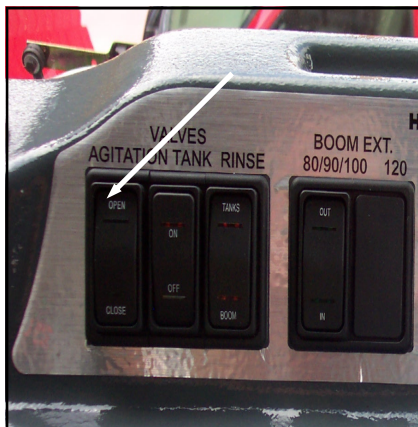
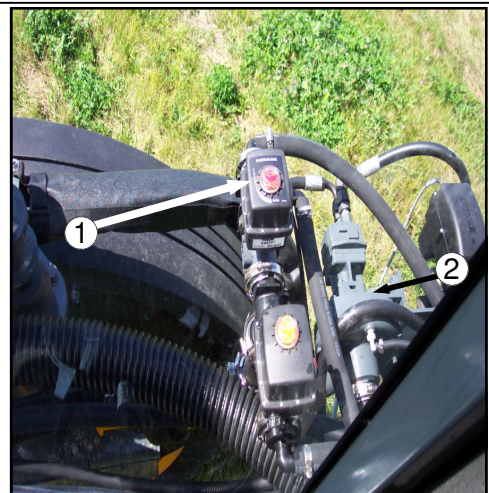

FIG 64-4
FIG. 64-3
**AGITATION**– The speed of the sparge agitation system is controlled by a variable flow solution valve (fig. 64-3, item 1) mounted on the solution pump (fig. 64-3, item 2). The agitation switch (fig. 64-4) on the right hand console controls the rate of flow through the sparge system. While watching the indicator on the agi-